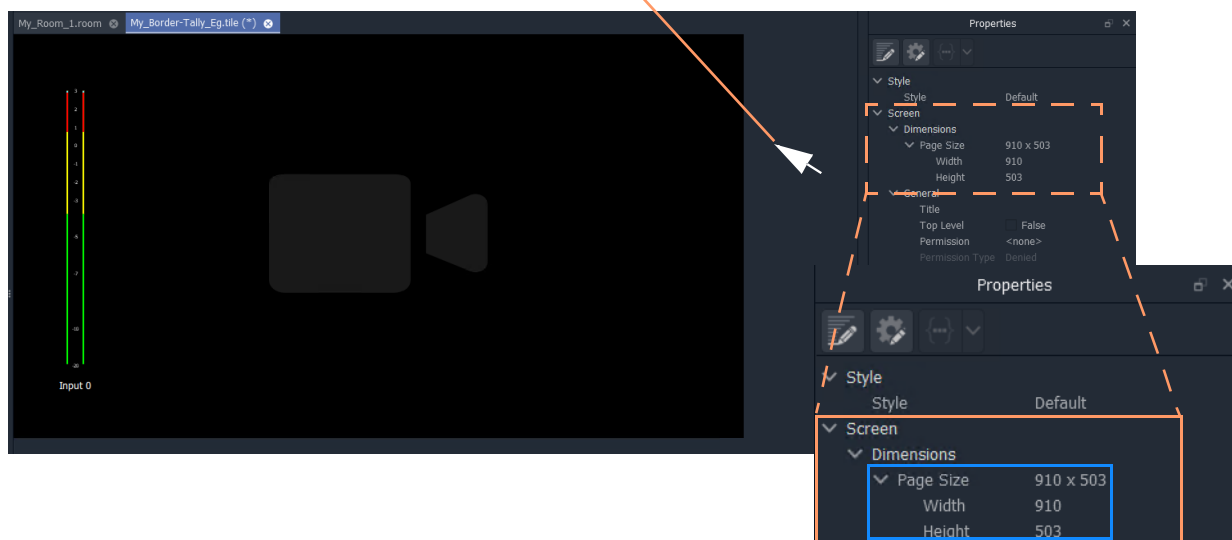

Fig. 9-25: Tile Size in Properties
- 3 Click off the Tile but in the **Tile Editor** stage area. See Figure 9-25.
In the example in Figure 9-25, the **Custom Tile**'s dimensions are: